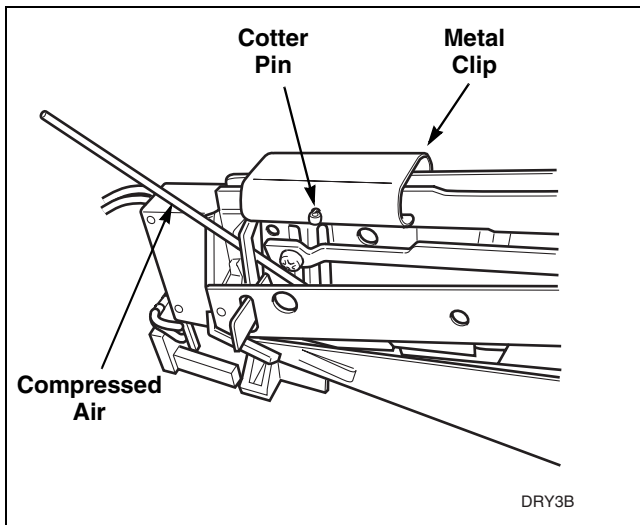

Figure 49
- c. If lint is preventing coins from rolling through coin drop, blow compressed air through coin entry and along the side of the coin drop. Refer to *Figure 49*.
- e. Remove cotter pin from top of drop. Refer to *Figure 49*. Save pin for reinstallation when cleaning is complete.
- f. Move metal clip closer to sensor so that it comes off frame. Refer to *Figure 49*.